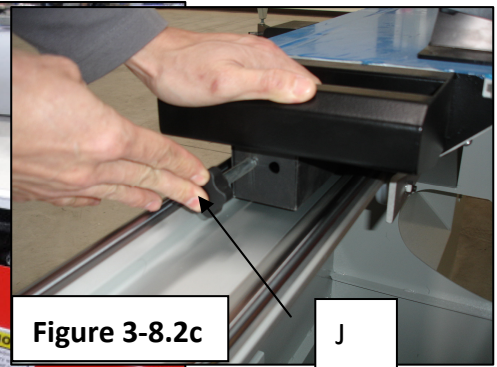

Figure 3-8.2c
4. Move the sliding table totally to the left and push the handle **J** (Fig. 3-8.2c) to the 2nd stop before reach the 1st stop.